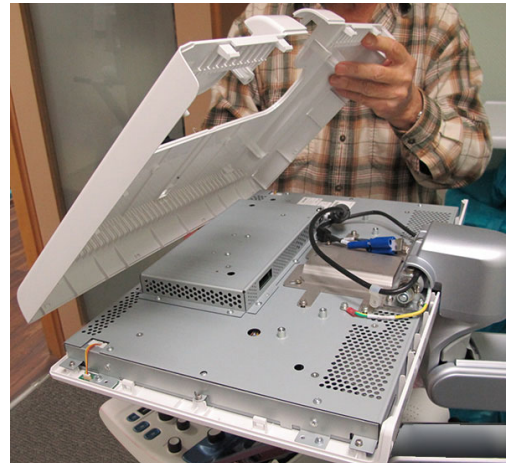

Figure 8-42 Removing the Monitor Rear Cover
- 8.) Tilt the cover backwards and continue to lift *upwards* until fully released from the rear of the monitor Figure 8-42, then remove.